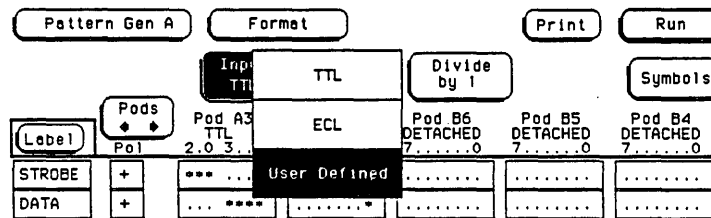

Figure 4-7. User Defined Field
- h. Touch Input, then touch User Defined. See figure 4-7. Set level to +9.9 Volts, then touch Done.